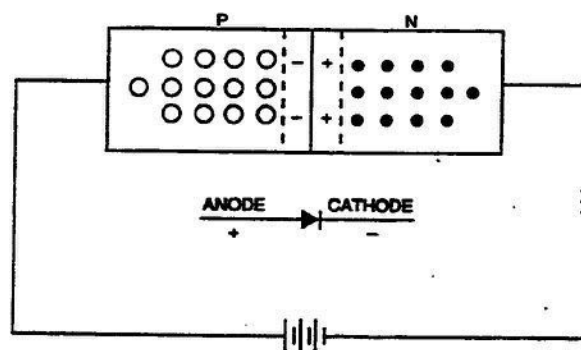

Figure 3-2. Forward-biased PN junction.
**Forward bias.** If we attach a battery with the polarities shown in figure 3-2, the potentials we apply forward bias the PN junction. In addition, the depletion region decreases the barrier, battery voltages aid each other, and the diode conducts. The potential of the battery causes both the holes and free electrons to move toward the barrier. For each electron entering the N-type material, one combines with a hole at the junction. As each hole is filled, an electron is removed from the P-type material and returns to the battery. As the potential of the battery is increased, the depletion region decreases until the diode exhibits only the natural resistance of the semiconductor material.